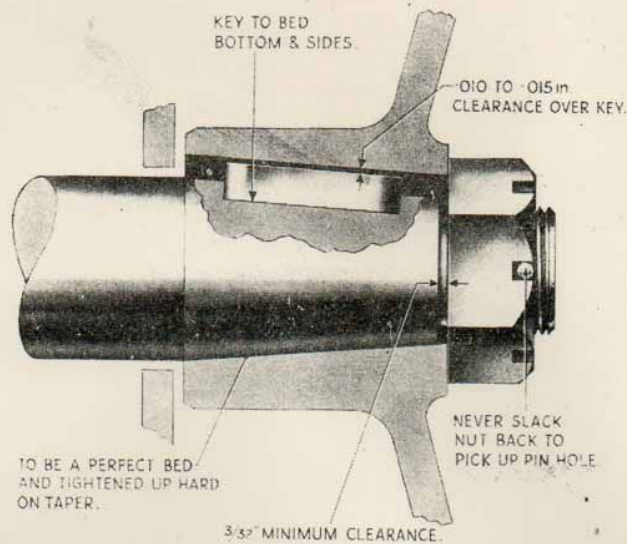

FIG.2. TAPERS, KEYWAYS AND NUTS.
2. Check that the top of the key is not bedding in the bottom of the component fitted to the shaft, as shown in Fig. 2.